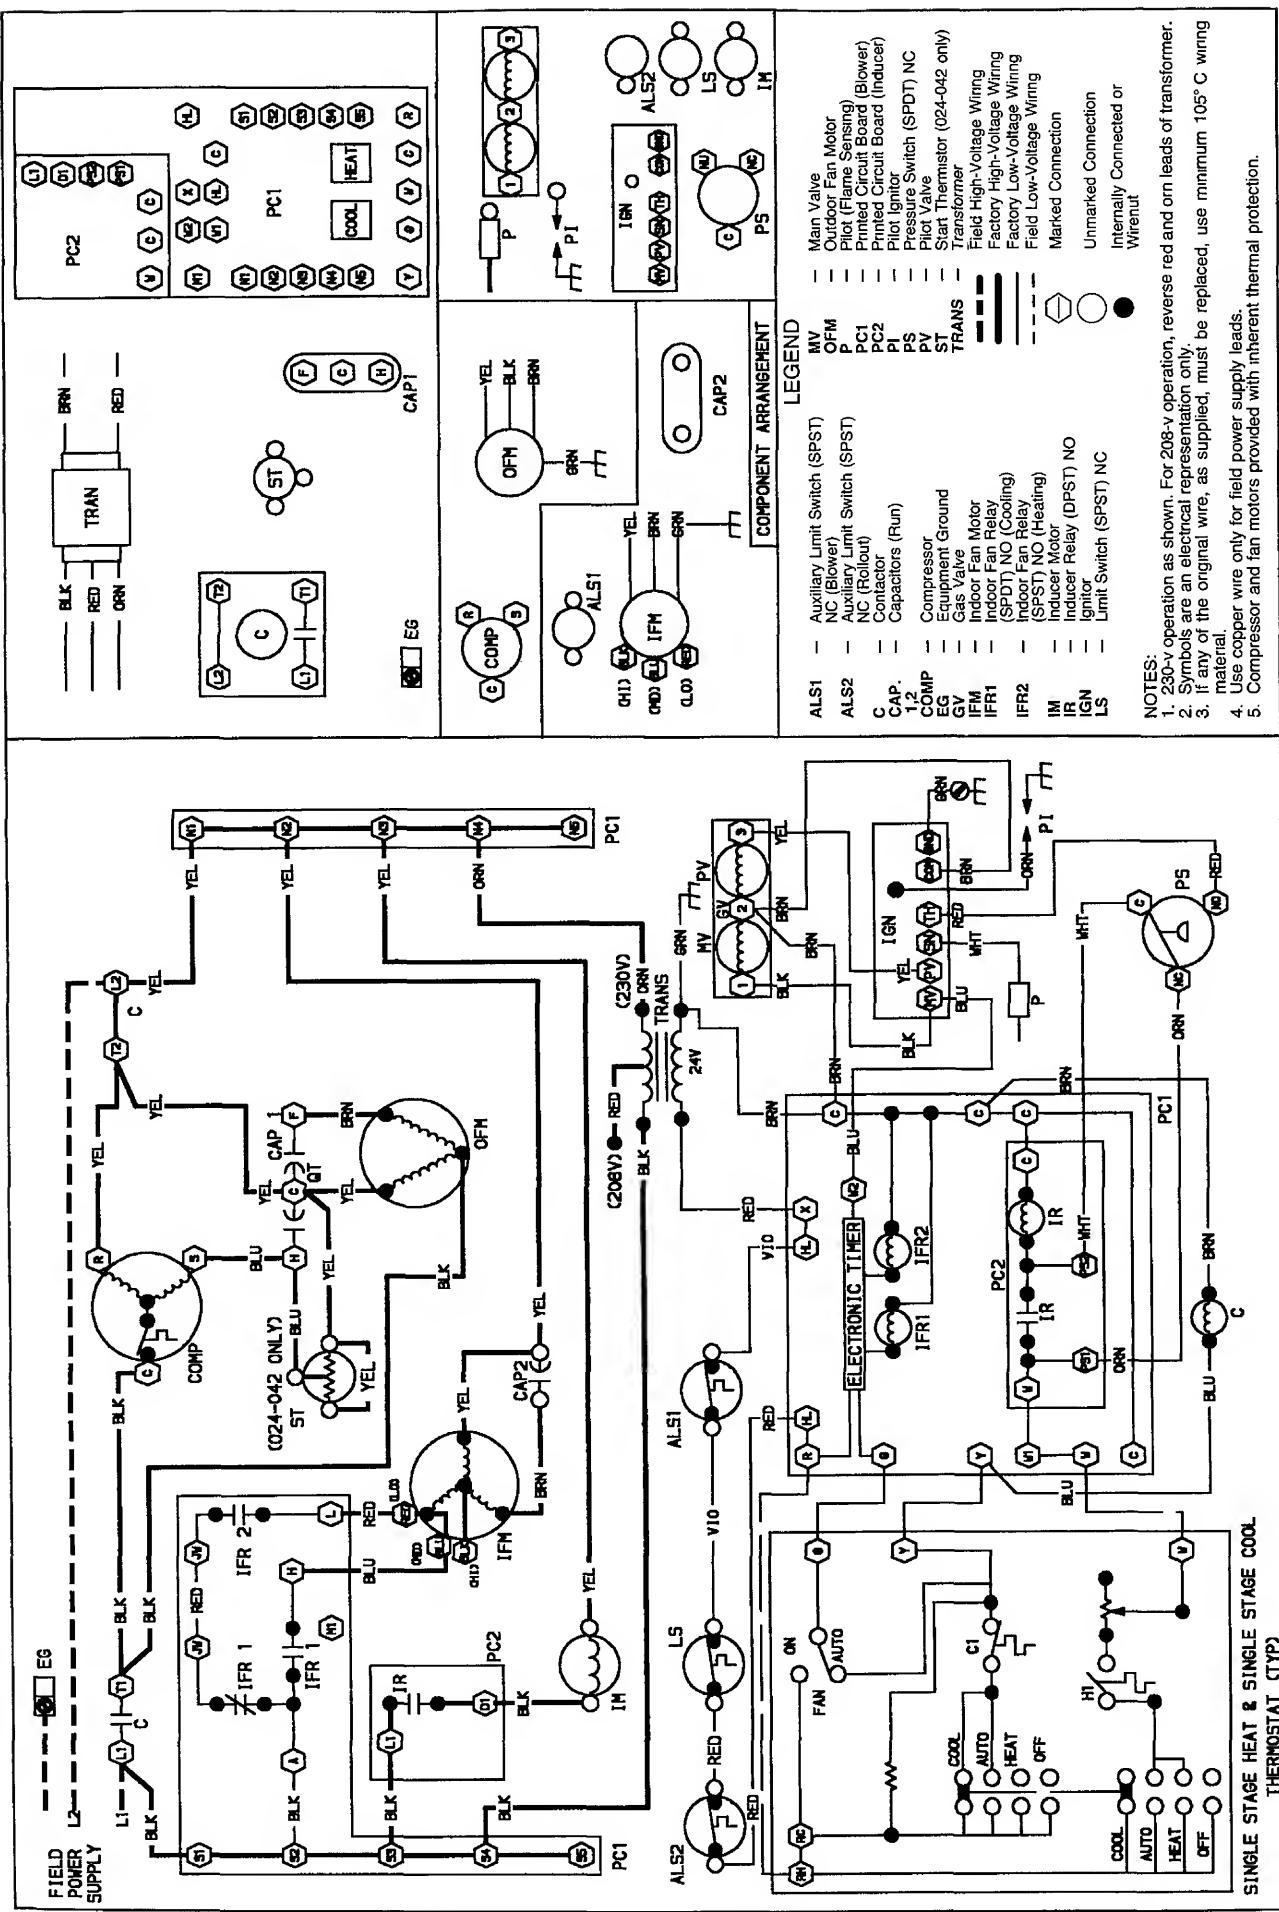
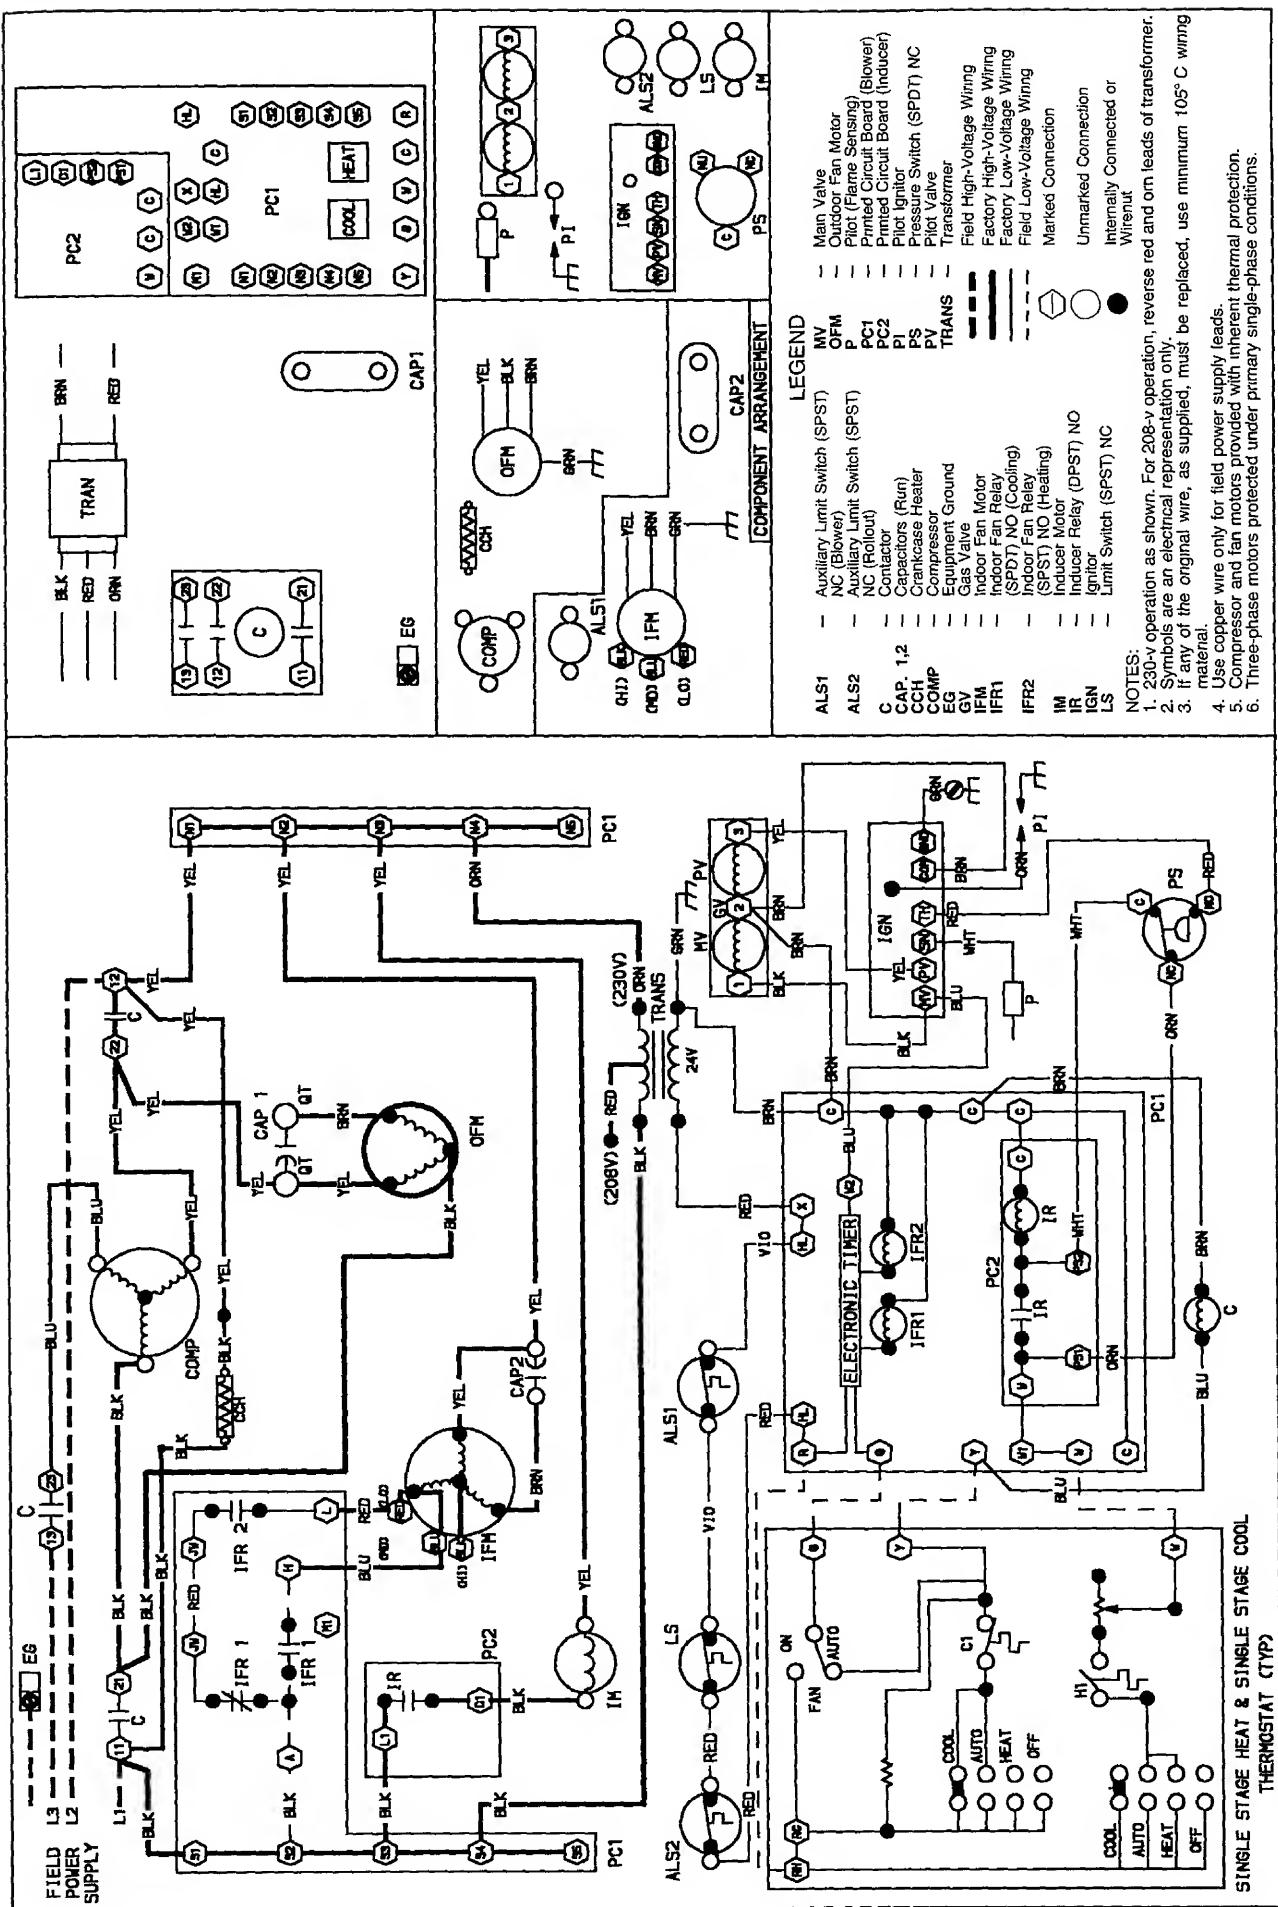

Fig. 13 – Typical Single-Phase Wiring Diagram
Fig. 14 – Typical 3-Phase Wiring Diagram
HEATING SEQUENCE OF OPERATION — See Fig. 13 for single-phase operation and Fig. 14 for 3-phase operation. Room thermostat calls for heat, closing circuit between R and W 24-v control circuit terminals. (Power to the R terminal is supplied through LS and ALS safety switches.) The PC2 inducer control board is energized through the normally closed set of contacts of pressure switches (CPS), which starts the inducer motor (IM). The IM comes up to speed, and the vacuum in the collector box increases, opening the normally closed and closing the normally open contacts of the pressure switch (PS), energizing the circuit to the ignition control (IGN) and the pilot valve (PV). If the flame sensor proves the presence of the pilot flame, the internal switching of the ignition control deenergizes the spark generator and energizes the main gas valve (MV) and the IFR2 electronic timer. Gas flows to the main burners and is ignited by the pilot flame. The PC1 electronic timer
LIMIT SWITCHES — Normally closed limit switch LS completes the control circuit through the thermostat R circuit. See Fig. 13 and 14. Should the leaving-air temperature rise above the maximum allowable temperature, the limit switch opens and the R control circuit "breaks." Any interruption in the R control circuit instantly closes the gas valve and stops gas flow to the burners and pilot. The IFM continues to run until the LS resets.